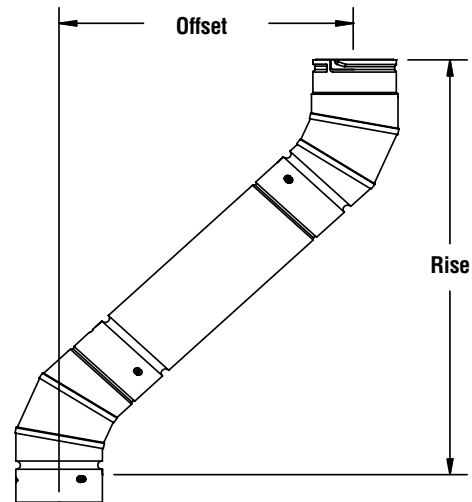

Figure 1
- Offset and Rise Chart - See **figure 1** and **table 3**.